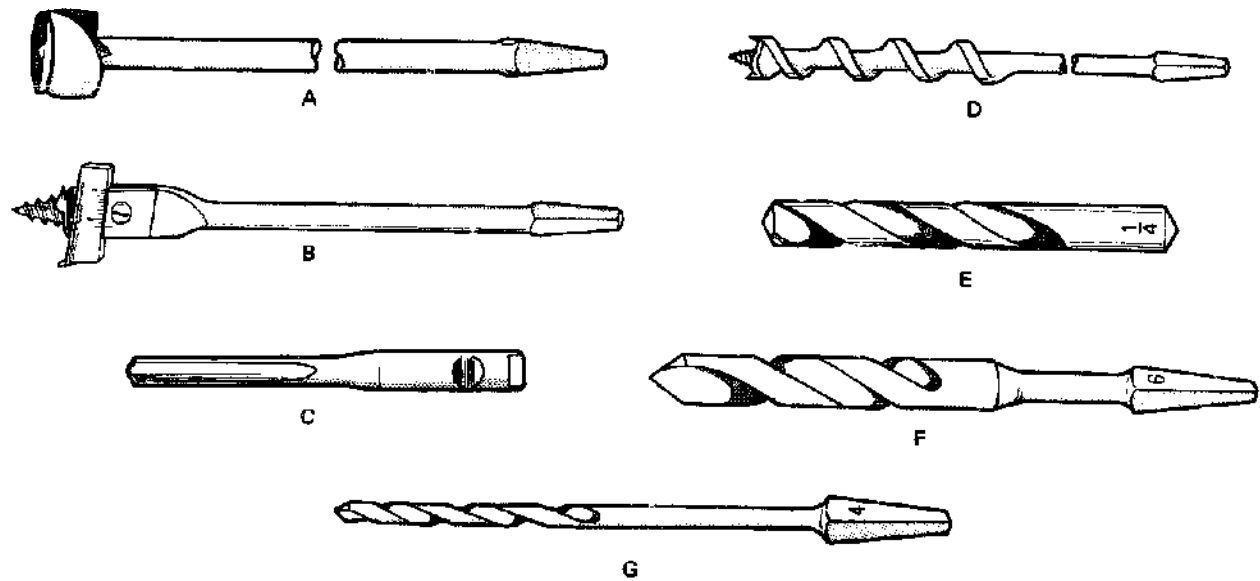

Fig. 10-61
2. Identify each bit or drill shown in figure 10-61. State the range of sizes, size increments, and the tools which each can be used.